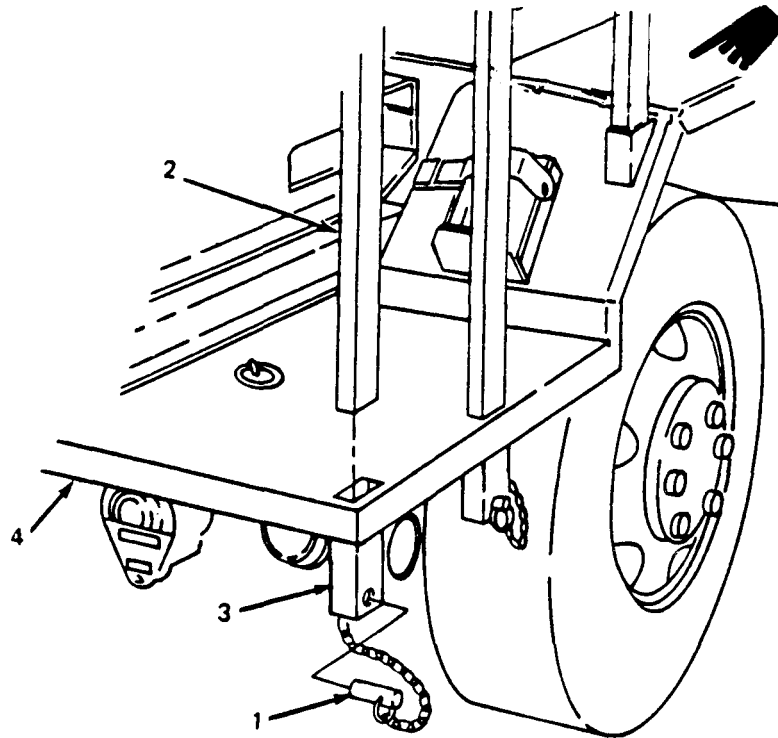

Figure 3-3. Bow Assembly Replacement.
b. Bow Assembly Replacement. (See figure 3-3.)